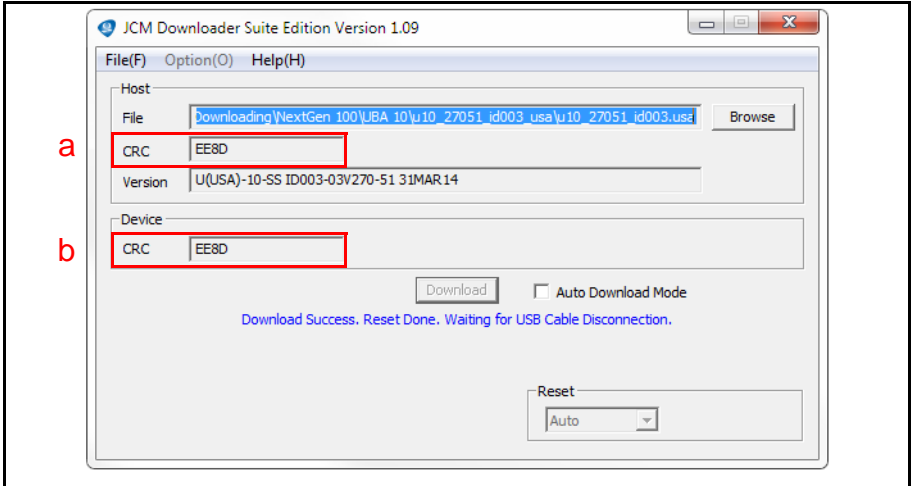

Figure 11 JCM Downloader Suite - Download Completed Successfully
8. Click the "Download" Screen Button on the JCM Downloader Suite Edition Version x.xx window to begin the download (Figure 11 on page 22).
9. Verify that the Device CRC (Figure 11 a) and the File CRC (Figure 11 b) match, indicating a successful download.